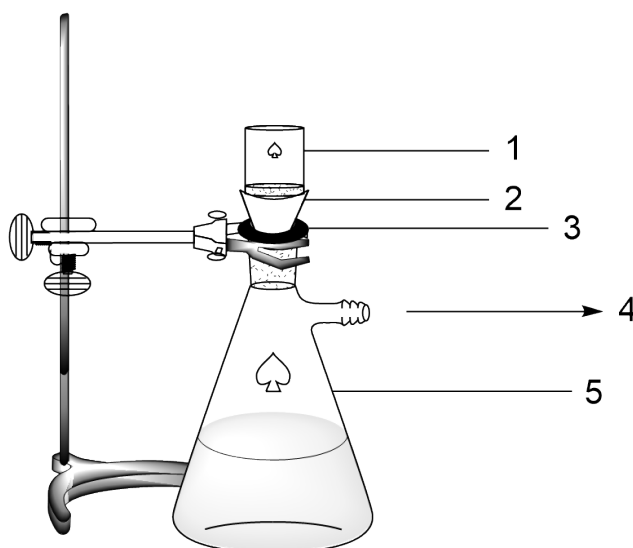

Figure 4: 1 = Glass filter crucible, 2 = conical rubber gasket, 3 = rubber protection sleeve, 4 = towards vacuum, 5 = suction flask
13. **Set up** a vacuum filtration apparatus: **Clamp** the suction flask to the laboratory stand and **make sure** the conical rubber gasket is sitting on the rubber protection sleeve (Figure 4).